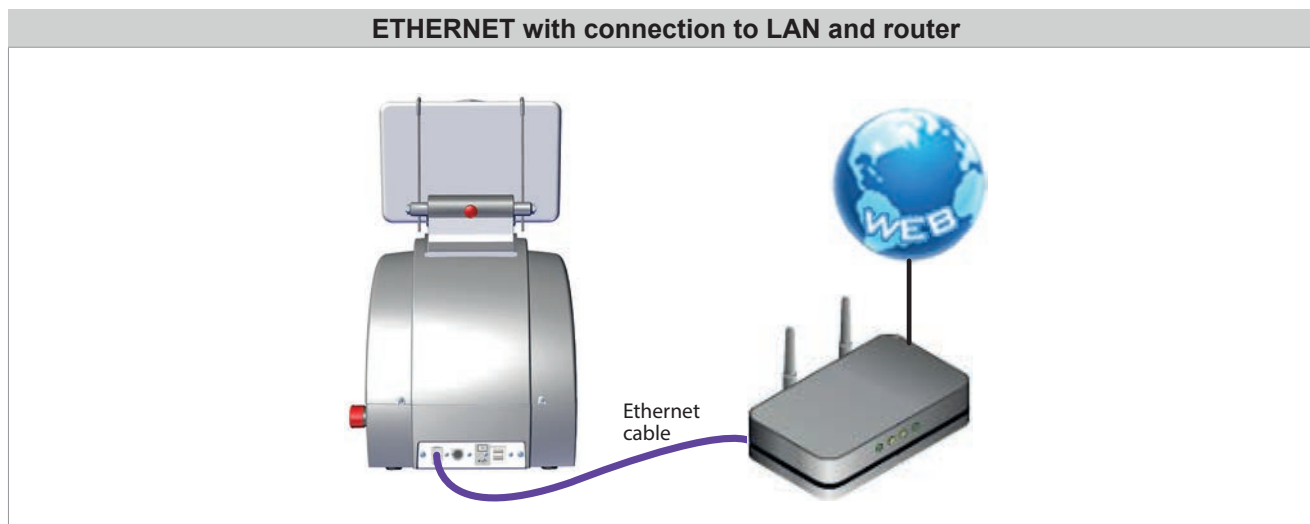

Fig. 4
- Connect your LAN ethernet cable to the machine (Fig. 4).